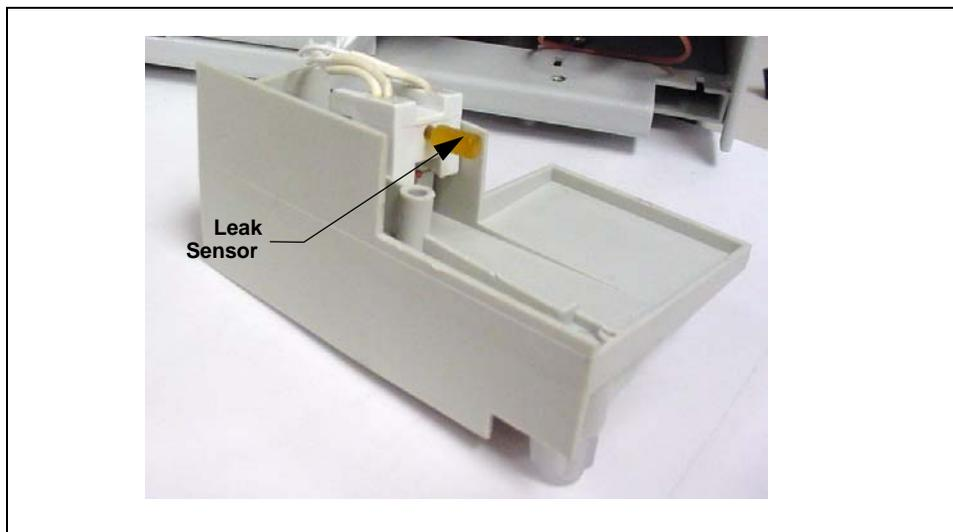

Figure 5-11. Drip Tray with Leak Sensor Installed
1. Hook the leak sensor on the tray as shown in Figure 5-11; make sure it is pushed all the way down onto the tray edge.